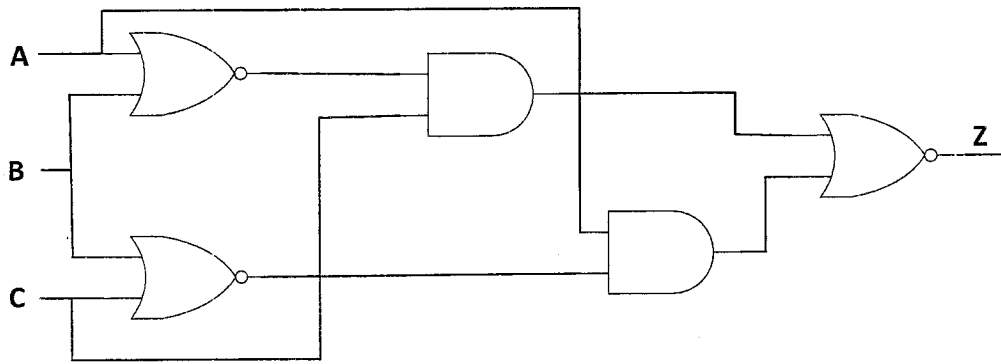

Fig. 8.2(b)
- (b) The gate network shown in figure 8.2(b) has three inputs:  $A$ ,  $B$  and  $C$ .